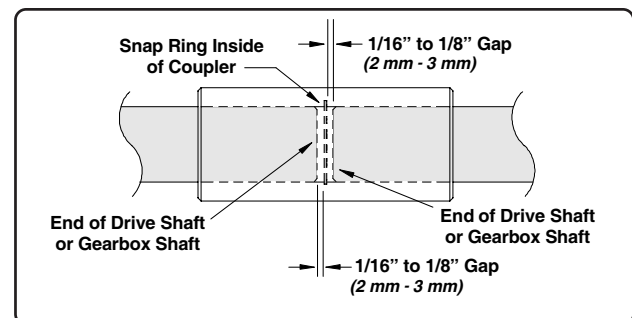

Fig. 20
4. When the drive shafts have been connected, there should be a 1/16" to 1/8" (2 mm to 3 mm) space in between the end of the shafts and the snap ring that is inside the coupler. If necessary, loosen the bearing locking collars on the drive shafts and position accordingly (See Fig. 20).